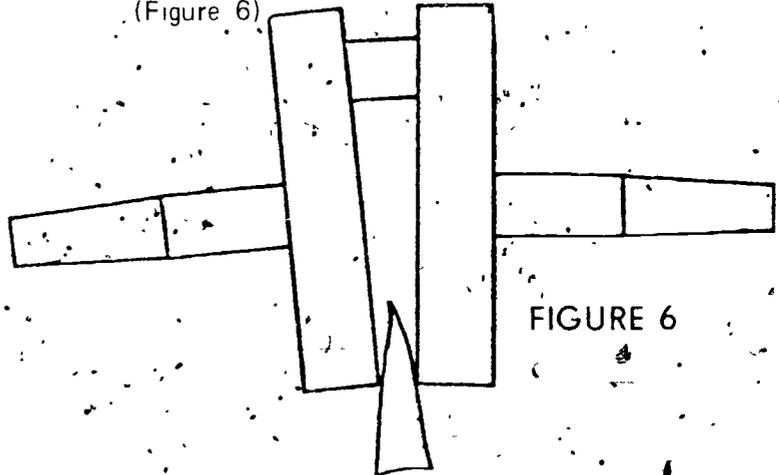

FIGURE 6
- 2) Drive wedge between wheels away from pin (Figure 6)